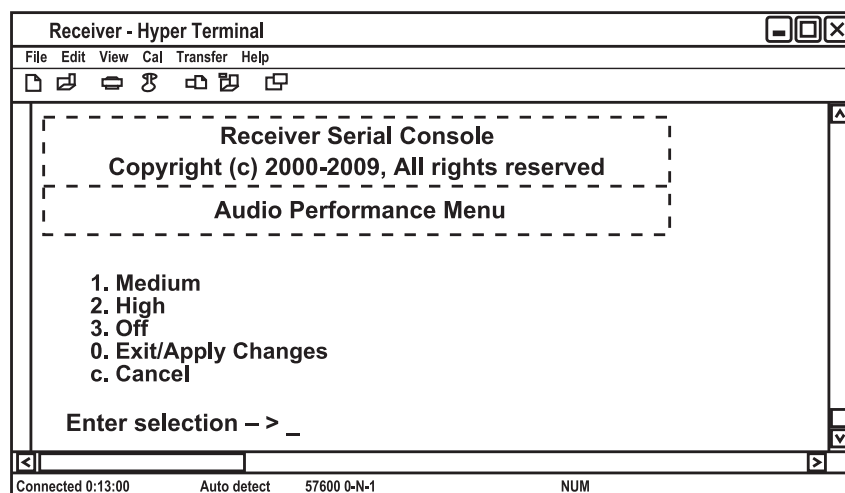

Figure 4-39. Receiver Audio Performance Menu.
2. Press "8" to access the Console Settings Menu and press "Enter." The current audio performance setting is displayed beside menu item 4.
3. Press "4" to access the Audio Performance Menu and press "Enter." This menu shows you the audio settings that you can choose from. The current setting is indicated by an asterisk. See Figure 4-39.